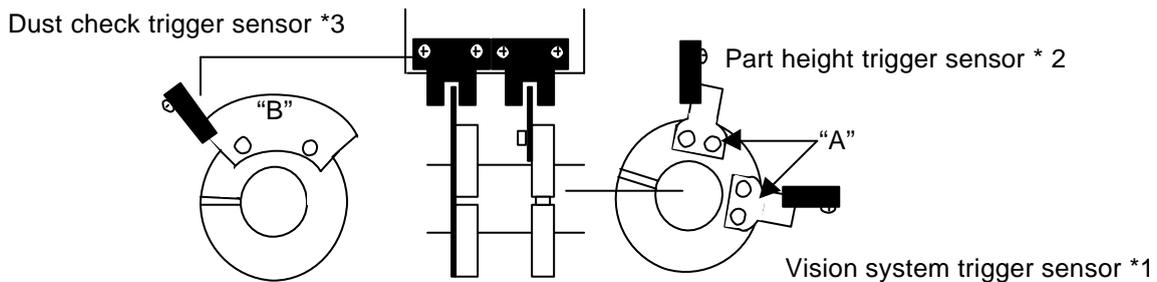

Figure 12
1. Adjust the two sensor flags "A" in fig 12, so that the two sensor LED's turn ON when rotating the Cam forward to 197 degrees. (Tolerance: 197 ± 1 degree)